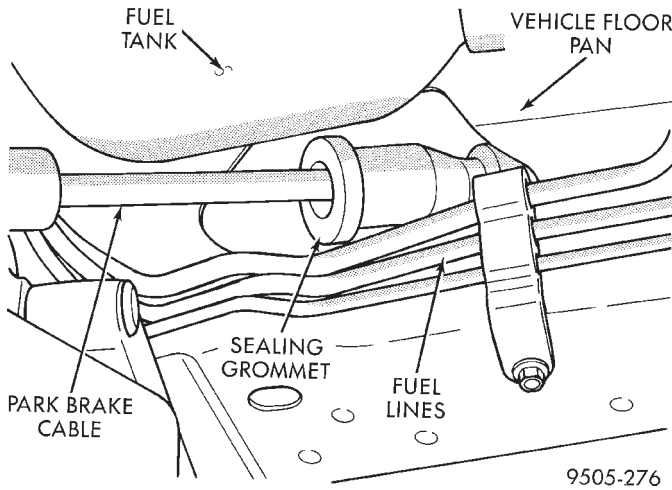

Fig. 161 Park Brake Cable Removal / Installation At Floor Pan
(25) Remove the park brake cable and sealing grommet (Fig. 161) from the floor pan of the vehicle.
(1) Install parking brake cable into floor pan of vehicle making sure sealing grommet (Fig. 161) is installed in floor pan as far as possible to insure a proper seal.
(2) Install park brake cable into the rear brake support plate. Be sure locking tabs on cable retainer